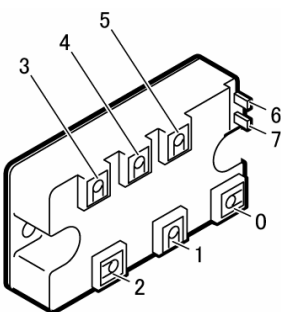

Figure 17 D1 tester checkpoints
- 2) Refer the Table 6 and Figure 17, 18 for the checkpoints on D1.